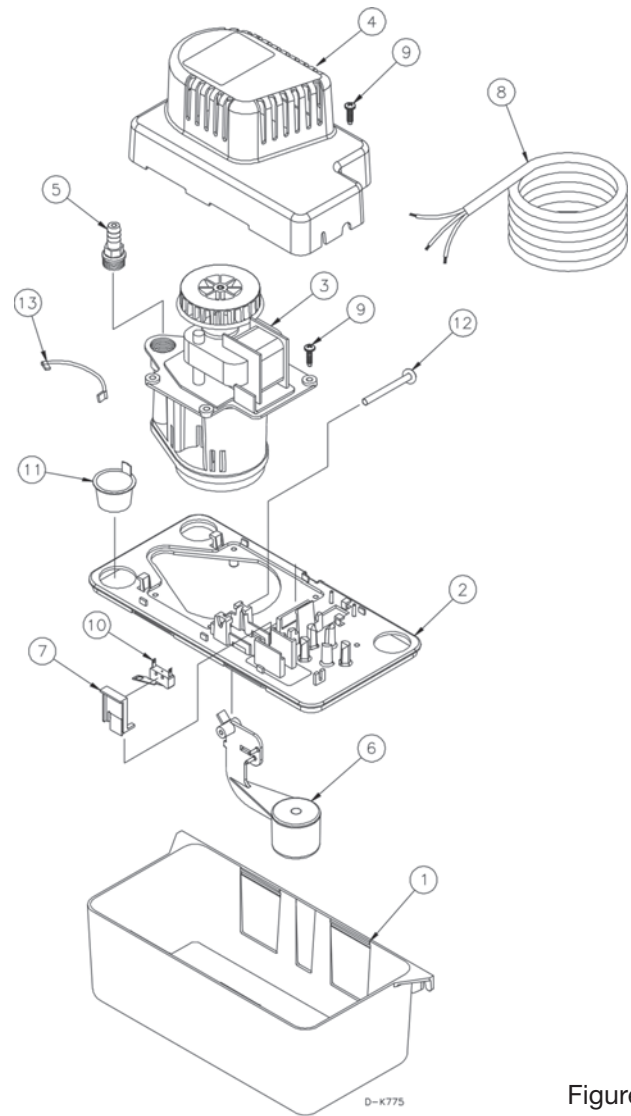

Figure 4.
- Connect 3/8" I.D. tubing to the discharge adapter (item 5, figure 4). For best results, secure tubing with clamps (not provided) but do not pinch collapse or otherwise restrict the tubing.